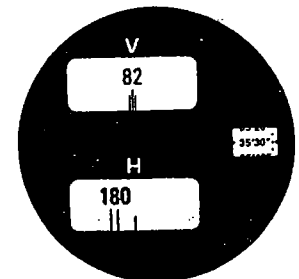

Fig. 30
- 1) Sight the target in face left position and obtain the zenith angle FL. Example: FL = 82°35'30", Fig. 30